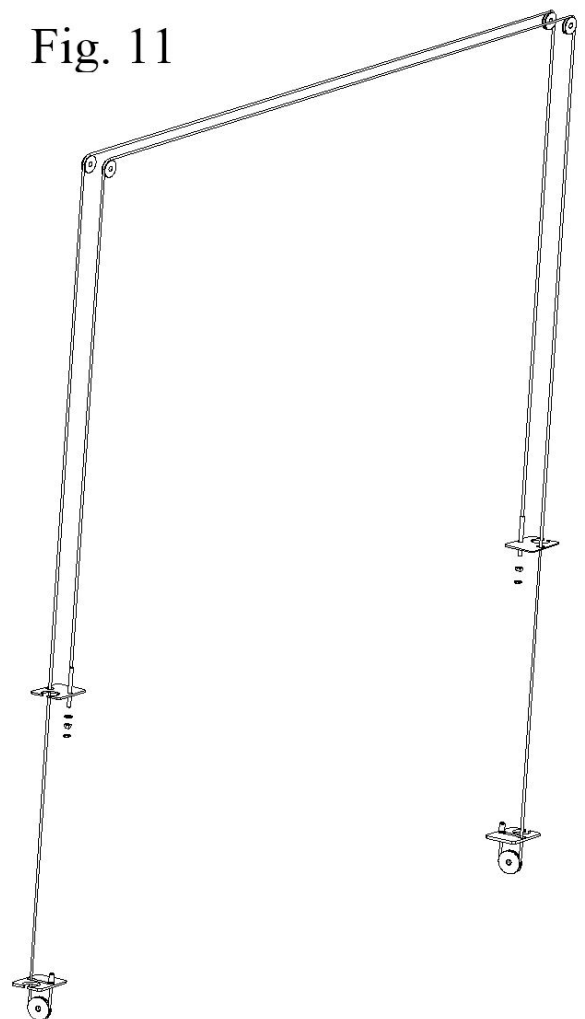

Fig. 11
- With the carriages in equal height, fit the cable end-ups through the small holes of the carriages (ref. fig. 11):
- Route the equalizer cables referring to the diagram (fig. 11). Make sure the cables in the place on the pulleys. Make sure the cables routed properly;